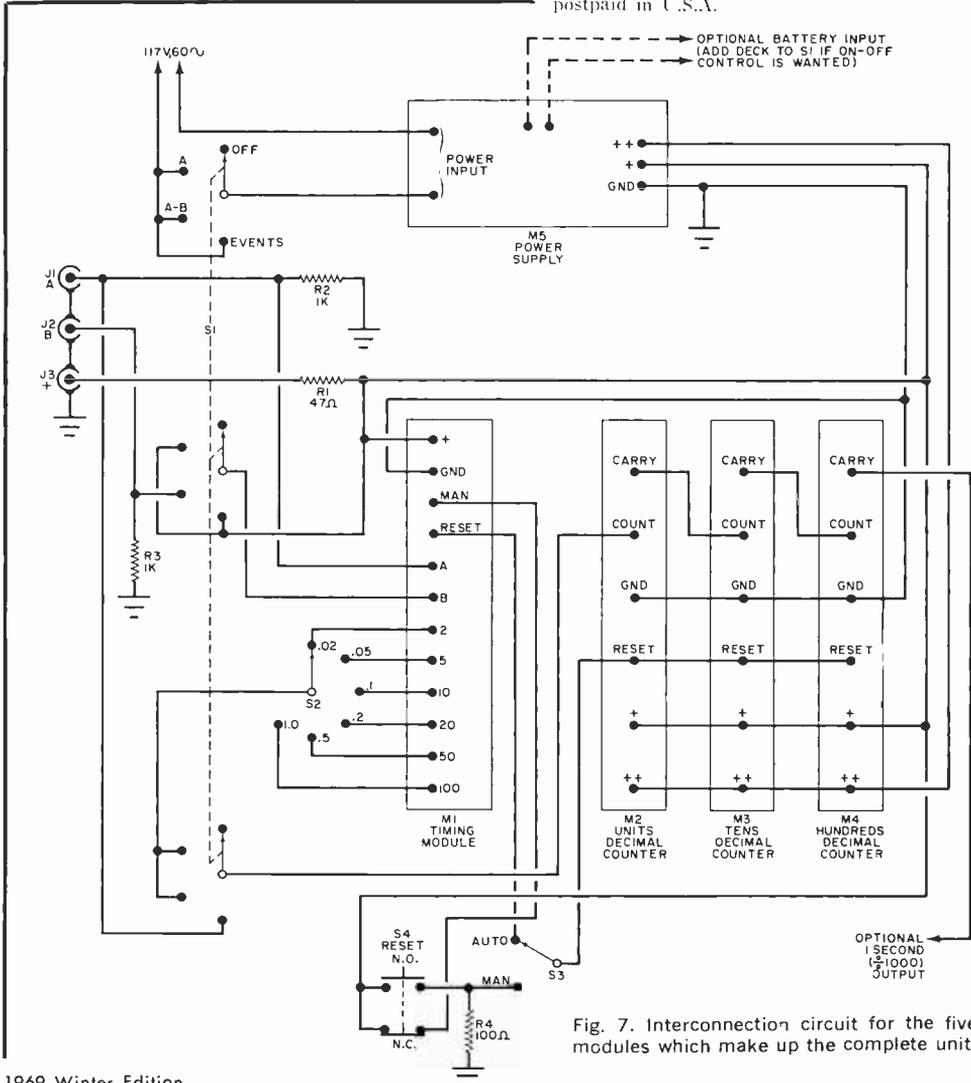

Fig. 7. Interconnection circuit for the five modules which make up the complete unit.
Overall Assembly. Figure 7 is the complete stopwatch interconnection schematic diagram. The overall assembly
Wire the various modules and switches together in accordance with Fig. 7. Use color-coded leads, and note that the deci-
*A few signal-conditioning circuits are shown in Fig. 7 of the “Counting Unit” article which appears on page 80. Figure 7(a) and (b) shows two approaches with mechanical switches, while Fig. 7(c) and (d) illustrates two methods of signal conditioning with sine-wave generators.
If desired, the optional one-second output line in Fig. 7 can be used to drive an external "seconds" counter. —30—